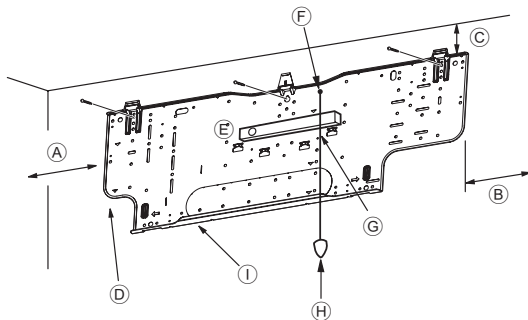
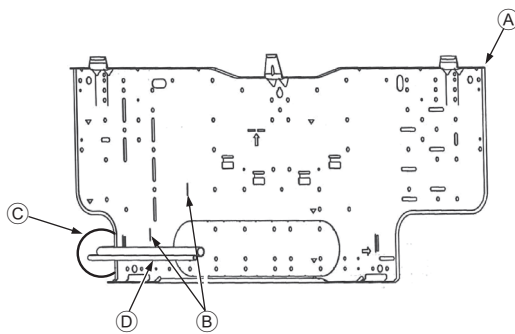

Fig. 3-4
Fig. 3-5
■ PKA-A-HA(L) (Fig. 3-4)
- ▲ Fixing screws (4 × 35 mm, 1-3/8 inch) ②
- ▲ Mount board ①
3.3. When embedding pipes into the wall (Fig. 3-5)